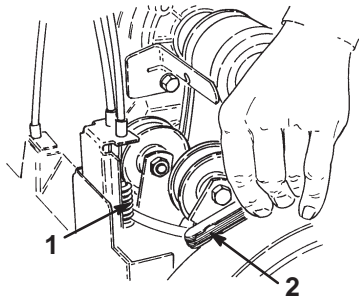

Figure 28
5. Hold the lever and insert a 0.010 in. (0.25 mm) feeler gauge between a coil in the center of the spring (Fig. 28).